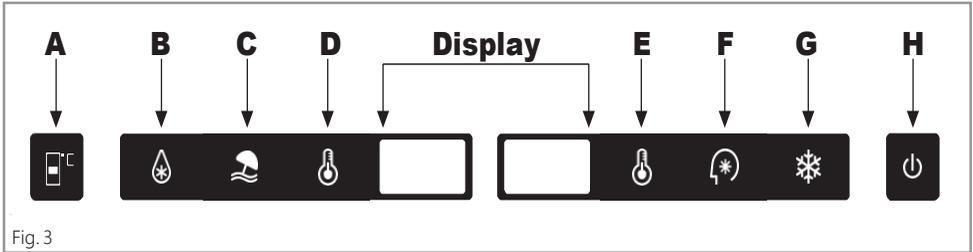

Fig. 3
To help in times of service or cleaning, the appliance has a forced defrost mode which can be activated by touching and holding buttons **A** and **C** in Fig. 3 for approximately 3 seconds. The refrigerator temperature adjustment sensor (A) will flash to confirm that the forced defrost function is active. This function should automatically deactivate once the freezer temperature has reached between 10 and 12°C.